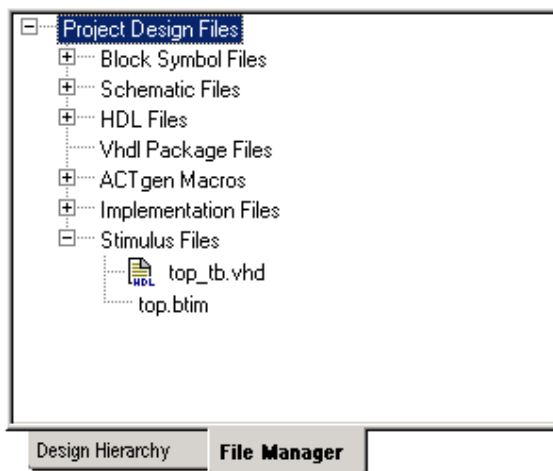

Figure 25 - Stimulus files for top in Libero IDE
- The stimulus files are visible on the Libero IDE File Manager tab (Figure 25).